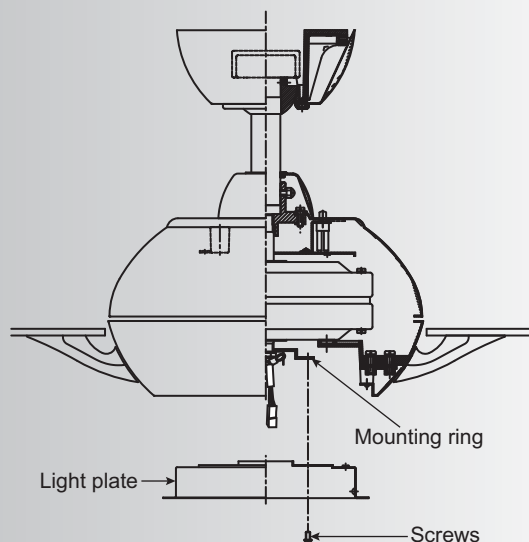

Fig. 18
Step 1. Loosen the two screws on the mounting ring attached to the motor shaft and "remove" and save the third screw. (Fig. 18)
Step 1. Loosen the three mounting screws on the inside of the LED light kit. (Fig.18)